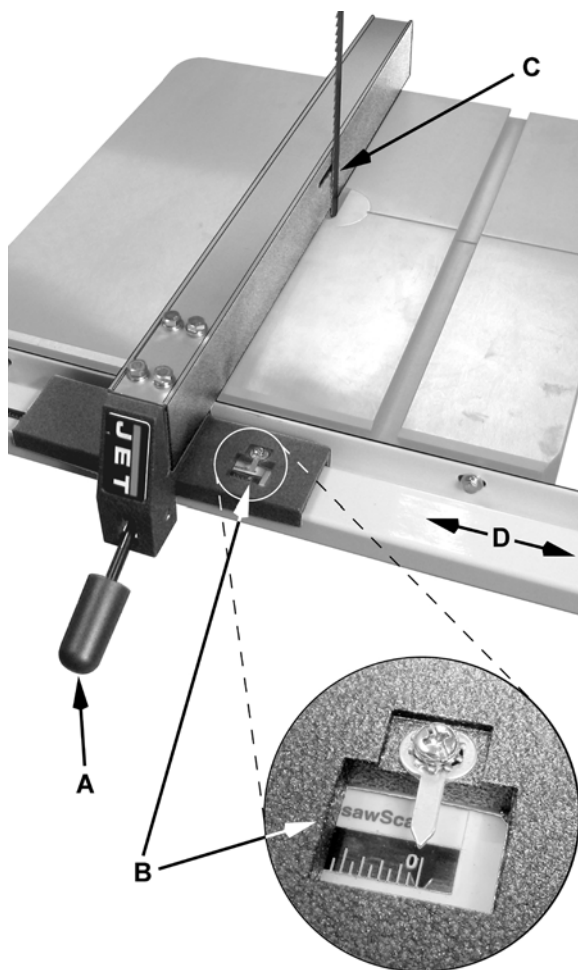

Figure 10
8. Move the fence assembly to the other side of the blade as shown in Figure 10 so that the *pointer* (B, Fig. 10) on the fence body points to zero on the scale. Lock the fence by pushing the *handle* (A, Fig. 10) down.
9. Move the guide rail (D, Fig. 10) *with the locked fence* until the fence is flush against the blade (C, Fig. 10). Do not unlock the fence to perform this. Move the fence and guide rail together when establishing the zero point.